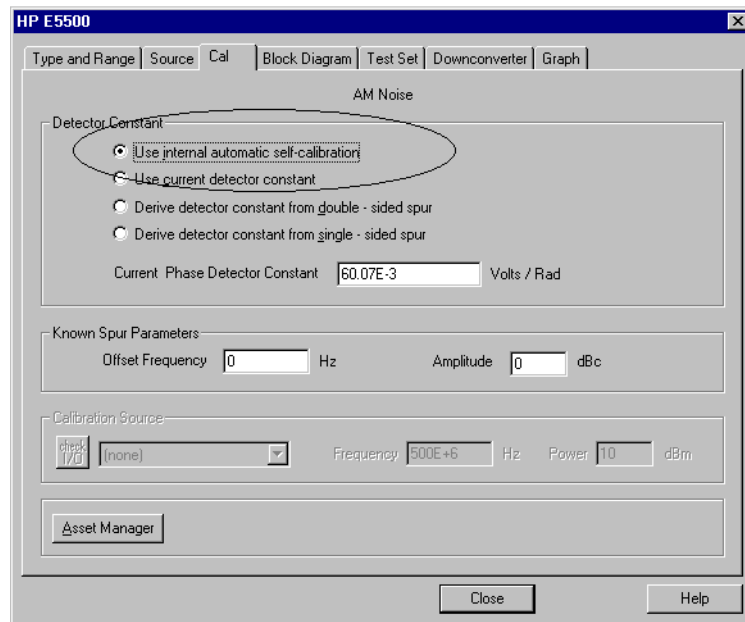

Figure 13-5 Enter Parameters into the Cal Tab
- 10 Select **Use automatic internal self-calibration** as the calibration method. See Figure 13-5. For more information about various calibration techniques, refer to Chapter 12, "AM Noise Measurement Fundamentals".